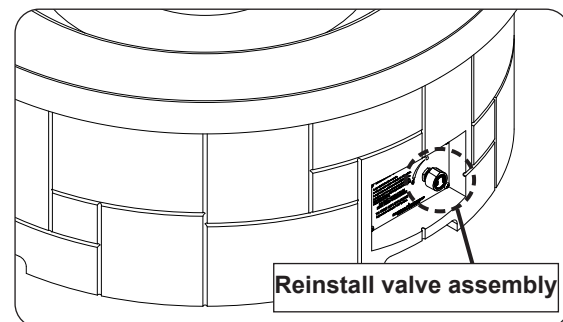

Fig. 31-3 Reinstall valve assembly
1. Reinstall the valve assembly. Tighten the nut attached to the valve. Reinstall the control knob. See Fig. 31-3.